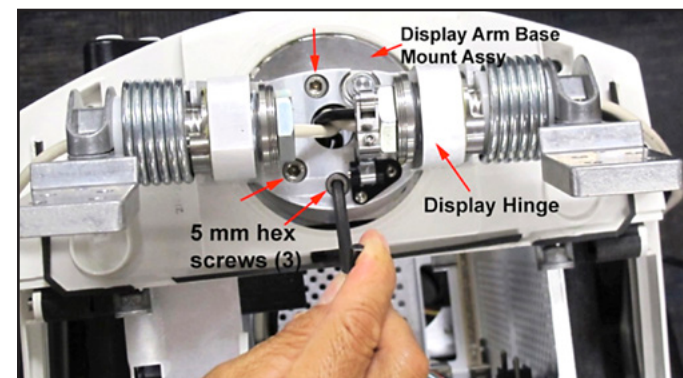

Figure 3-92 Display Hinge Removal
- 69.4 Remove three 5 mm hex screws securing Display Hinge onto Display Arm Base Mount Assembly (see Figure 3-92).